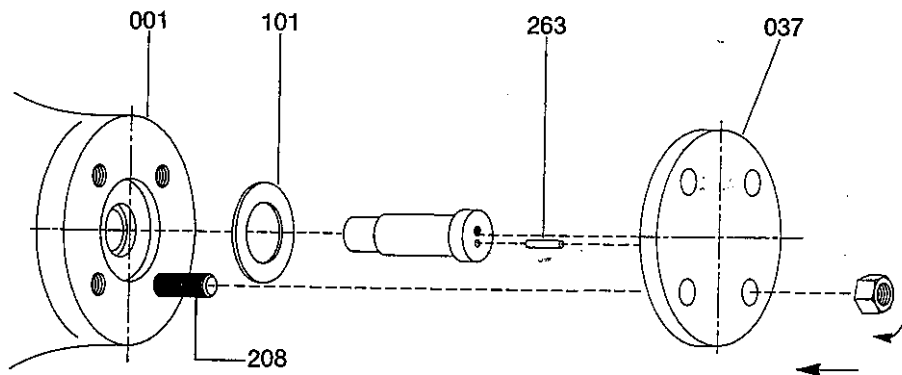

Fig. 11
Where blind flange type covers are used (Fig. 11), the spiral wound gasket (101) and roll pin (263) are put in place after the hinge pins are inserted. The cover (037) is then installed and the nuts torqued to the values given in Table 2.